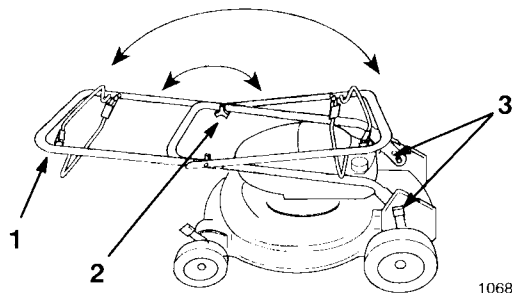

Figure 2
1. Loosen the handle knobs and lift the top handle half in an arc until the handle halves are in line and nest together (Fig. 2).
3. Rotate the handle toward the rear of the lawn mower until it snaps into the stops in the handle brackets (Fig. 2).